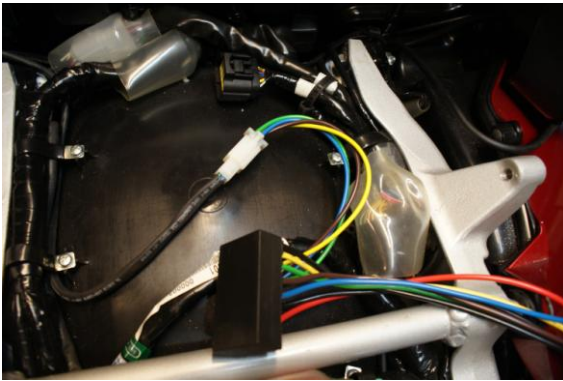

Figure 5
6. Connect the relay section of the trailer wiring harness to the trunk section of the trailer wiring harness using the four pin connector. **(Figure 5)**